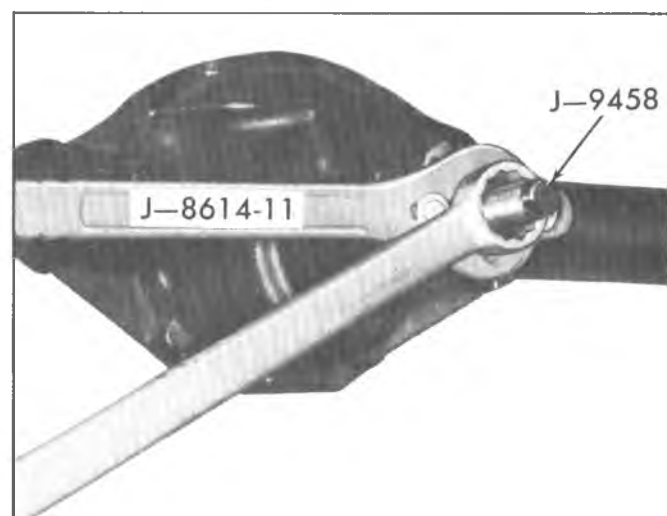

Fig. 23A—Drive Pinion Flange Installation
7. Install Companion Flange Holding Tool J-8614-11. See Figure 23A.